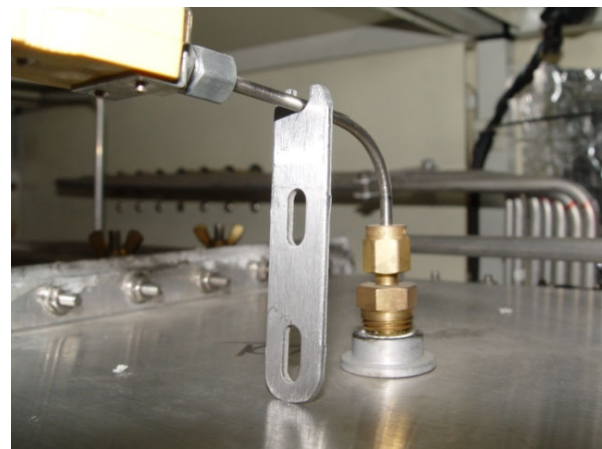

Figure 1-3 Thermocouple Height Gage
- b. if using height gage, place height gage in position and lower thermocouple until it rests on height gage as shown in figure 1-3 & 1-4; or if using neither of the above, or